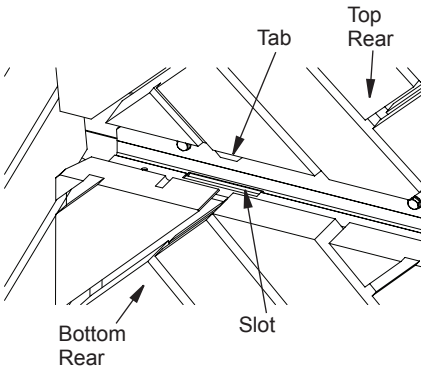
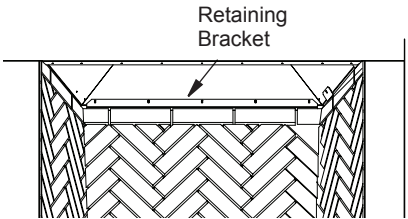

Figure 23 - Installing Top Rear Wall
Figure 24 - Installing Top Rear Wall
5. Install the rear top firebrick wall. Lift the panel up with the front of the firebrick wall facing toward the front of the fireplace. The bottom of the panel has two tabs that slide into the bracket on the top of the bottom rear panel (Figure 23). Secure the top of the firebrick wall with the rear retaining bracket provided. The bracket will slip underneath the metal lip on the top of the firebrick wall and screw into the inner dome of the fireplace (Figure 24).